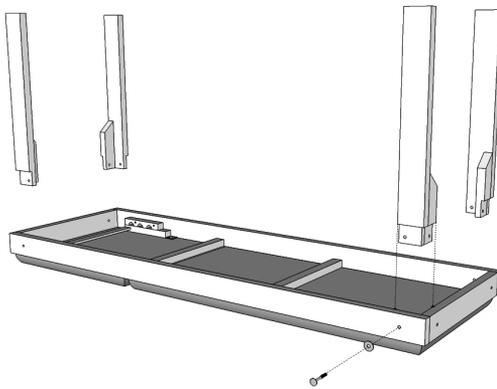

Fig. 1
3. Open the Pluriball packing. Unscrew and remove the nuts and washers from the bolts. Turn the couch upside down. Insert the legs in their seats using the numbering on the legs as a guide. Insert the bolts as shown in Fig.1. Fit and tighten the nuts.